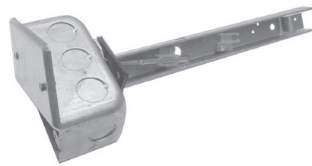

Figure 17. Sensor Holder and Junction Box Assembly
- b. For units with sensor holder and junction box assembly option (see Figure 17):